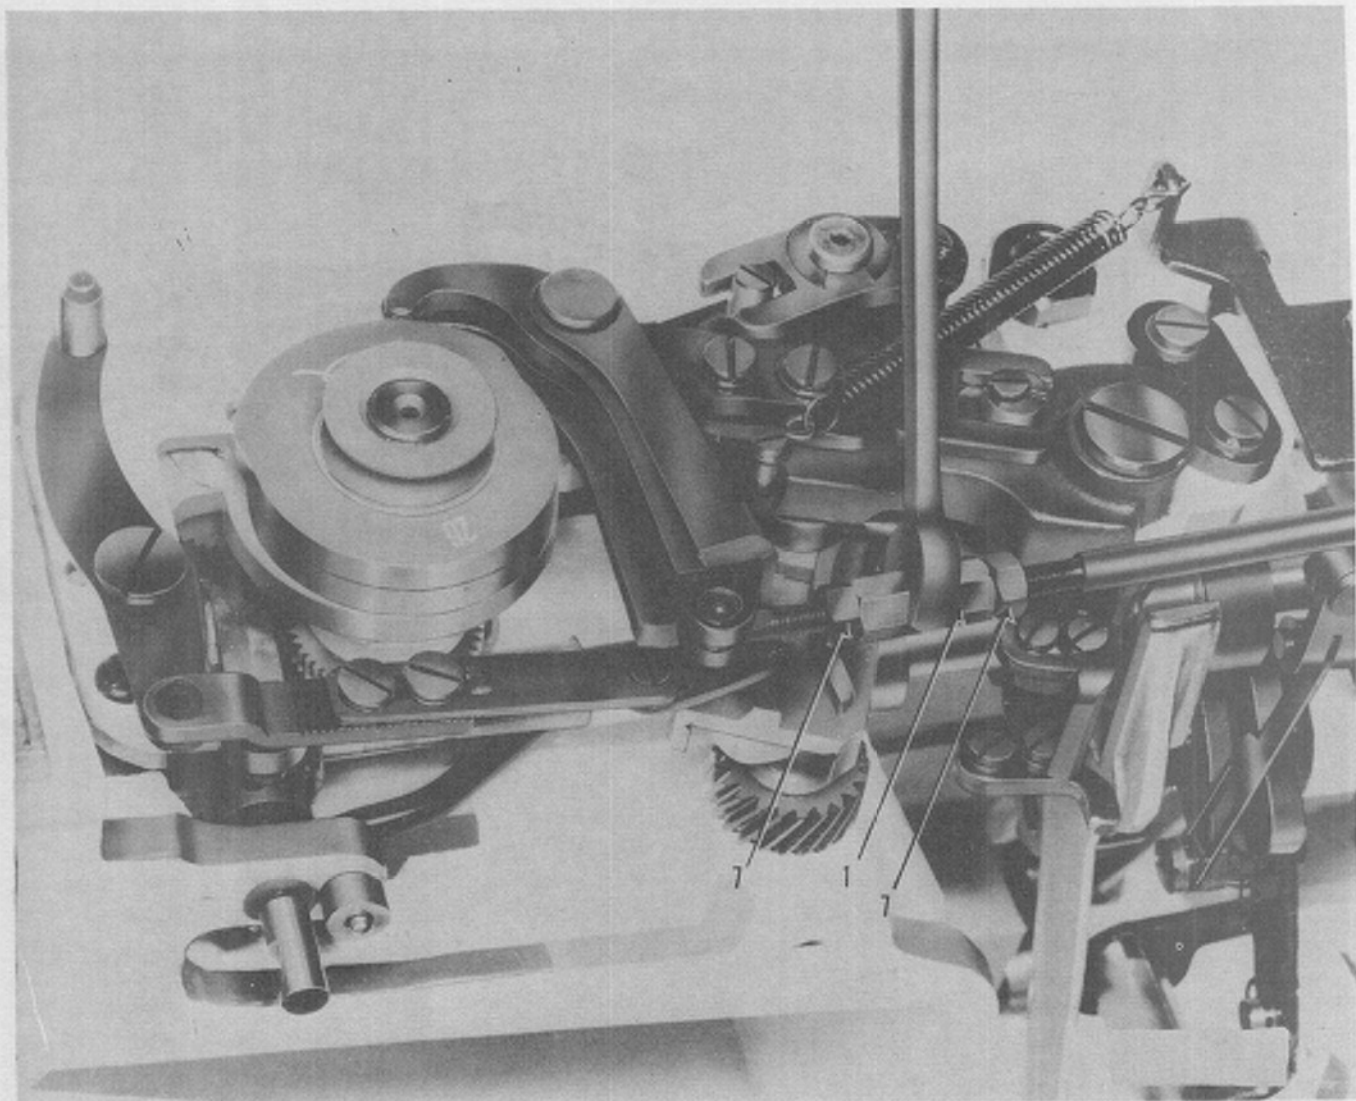
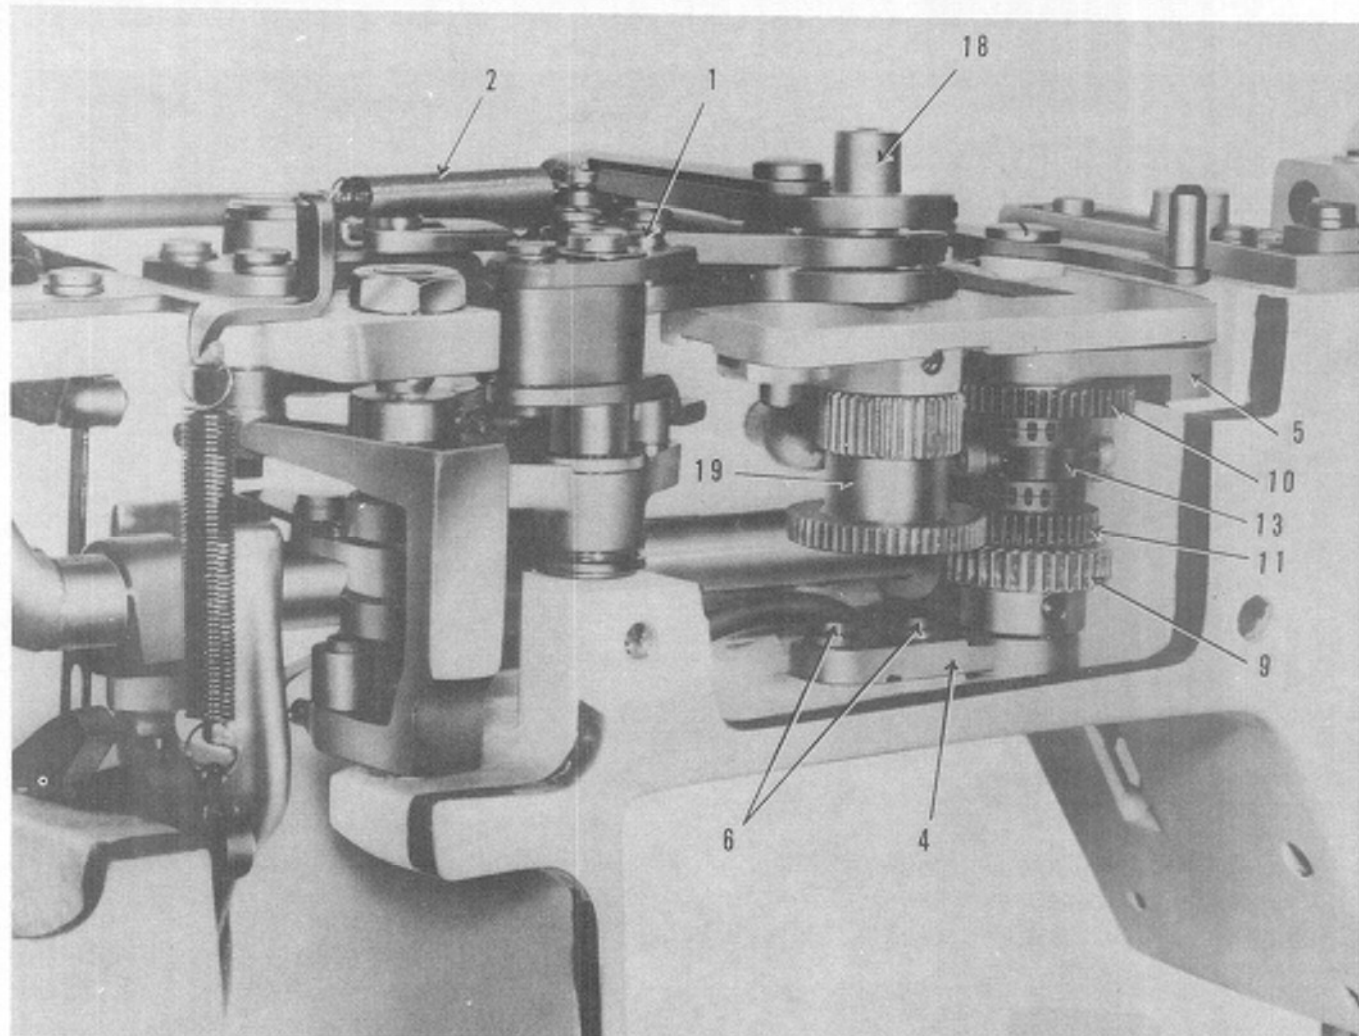

Figure 35
Figure 36
The reverse portion of the pattern should be adjusted until the machine sews a reverse loop the same as is shown on the pattern disc. You will note that the high portion of the cam surface causes the machine to reverse. To adjust the cam follower loosen the two set screws at either end of turnbuckle on the reverse cam follower linkage (Figure 35 No. 1). To increase the length of the reverse loop turn turnbuckle toward you. To decrease length of the reverse loop turn turnbuckle away from you. When the reverse linkage is properly adjusted, tighten the set screws at either end of the turnbuckle.
To remove the cam drive shaft plate, remove the spring clip (Figure 36 No. 1) on the tail end of the needle position cam follower, unhook the pull spring (Figure 36 No. 2) from the stitch width cam follower, and disconnect the material feed cam follower at the turnbuckle (Figure 35 No. 1). Now the cam drive shaft plate can be removed by loosening three set screws which attach the plate to the arm of the machine.
1. The worm (Figure 37 No. 8) drives the worm gear (Figure 37 No. 9) which in turn rotates the expander shaft (Figure 37 No. 12) and the sliding gear (clutch) (Figure 36 No. 13). The large expander gear (Figure 37 No. 10) and the small expander gear (Figure 37 No. 11) are free on the shaft, but each gear has a set of teeth on its side which can mesh with the teeth of the sliding gear. The sliding gear slips up and down the shaft in response to a mechanical linkage with the stitch expander control knob.
2. The cam drive shaft has two gear surfaces attached to the lower end of the shaft (Figure 36 No. 19). The smaller gear surface on the cam drive shaft meshes with the large expander gear (Figure 36 No. 10) and the large gear surface meshes with the small expander gear (Figure 36 No. 9).
3. Thus, it can be seen that when the slide gear is in the up position power flows from the worm (Figure 37 No. 8) to the worm gear (Figure 37 No. 9) to the shaft (Figure 37 No. 12) to the sliding gear (Figure 36 No. 13) to the large expander gear (Figure 36 No. 10) to the small gear surface on the cam drive shaft, and hence to the cam drive shaft itself. The large cam drive shaft gear is free to rotate at the same speed
because the small stitch expander gear (Figure 36 No. 11) is now disengaged and turns freely. With the slide gear in the down position the power flows from the slide gear (Figure 36 No. 13) to the small expander gear (Figure 36 No. 11) to the large gear surface on the cam drive shaft. The small gear surface on the cam drive surface to the cam drive shaft. The small gear surface on the cam drive shaft rotates at the same speed as the large gear surface and the large stitch expander gear (Figure 36 No. 10) is disengaged and turns freely on its shaft.
If excessive play has developed remove cam drive shaft plate as described on Page 20. Loosen the set screws on each of the stitch expander shaft bearing brackets (Figure 36 No. 4 and No. 5) and reposition the worm gear so that it meshes more closely with the worm (Figure 37 No. 8 and No. 9). After replacing the cam drive plate it will be necessary to recheck each cam follower for proper positioning (See Pages 31-35).